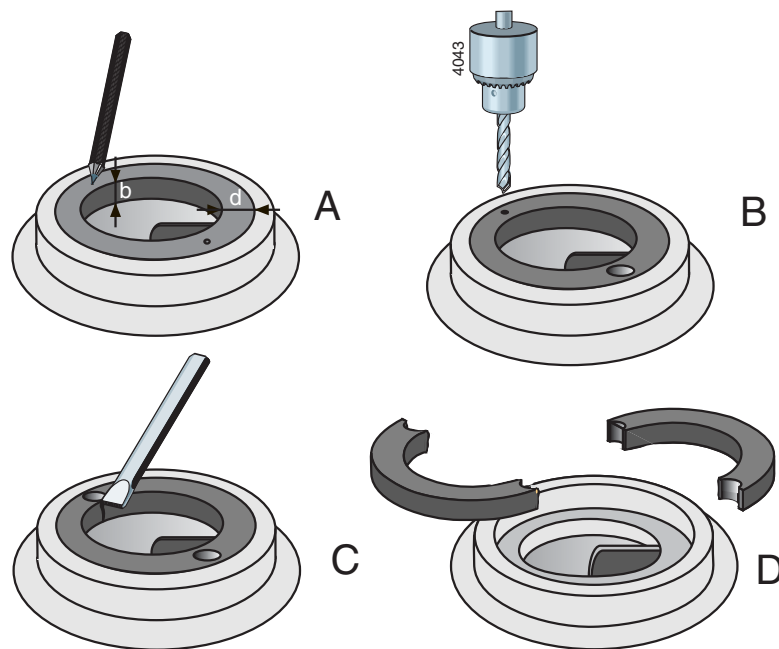

Figure 10: Removal of wear ring.
- 1 Measure the thickness (D) and the width (B) of the ring, see figure 10 A.
- 2 Make a centre hole in the middle of the edge of the ring at two opposite points, see figure 10 B.
- 3 Use a drill with a diameter just a little bit smaller than the thickness (D) of the ring and drill two holes in the ring, see figure 10 C. Don't drill deeper than the width (B) of the ring. Take care not to damage the fitting edge of the pump casing.
- 4 Use a chisel to cut the remaining part of the ring thickness. Now you can remove the ring in two parts from the pump casing, see figure 10 D.